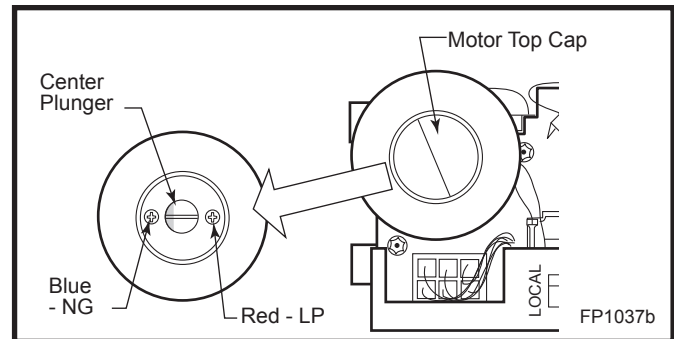

Fig. 83 Depress and turn center plunger.
4. Remove motor top cap. Depress and turn center plunger until arrow points to correct screw. Red for LP and Blue for NG. **NOTE:** Plunger will "snap" into NG position when arrow is close to blue screw. It will not "snap" at LP (Red) position. (Fig. 83)